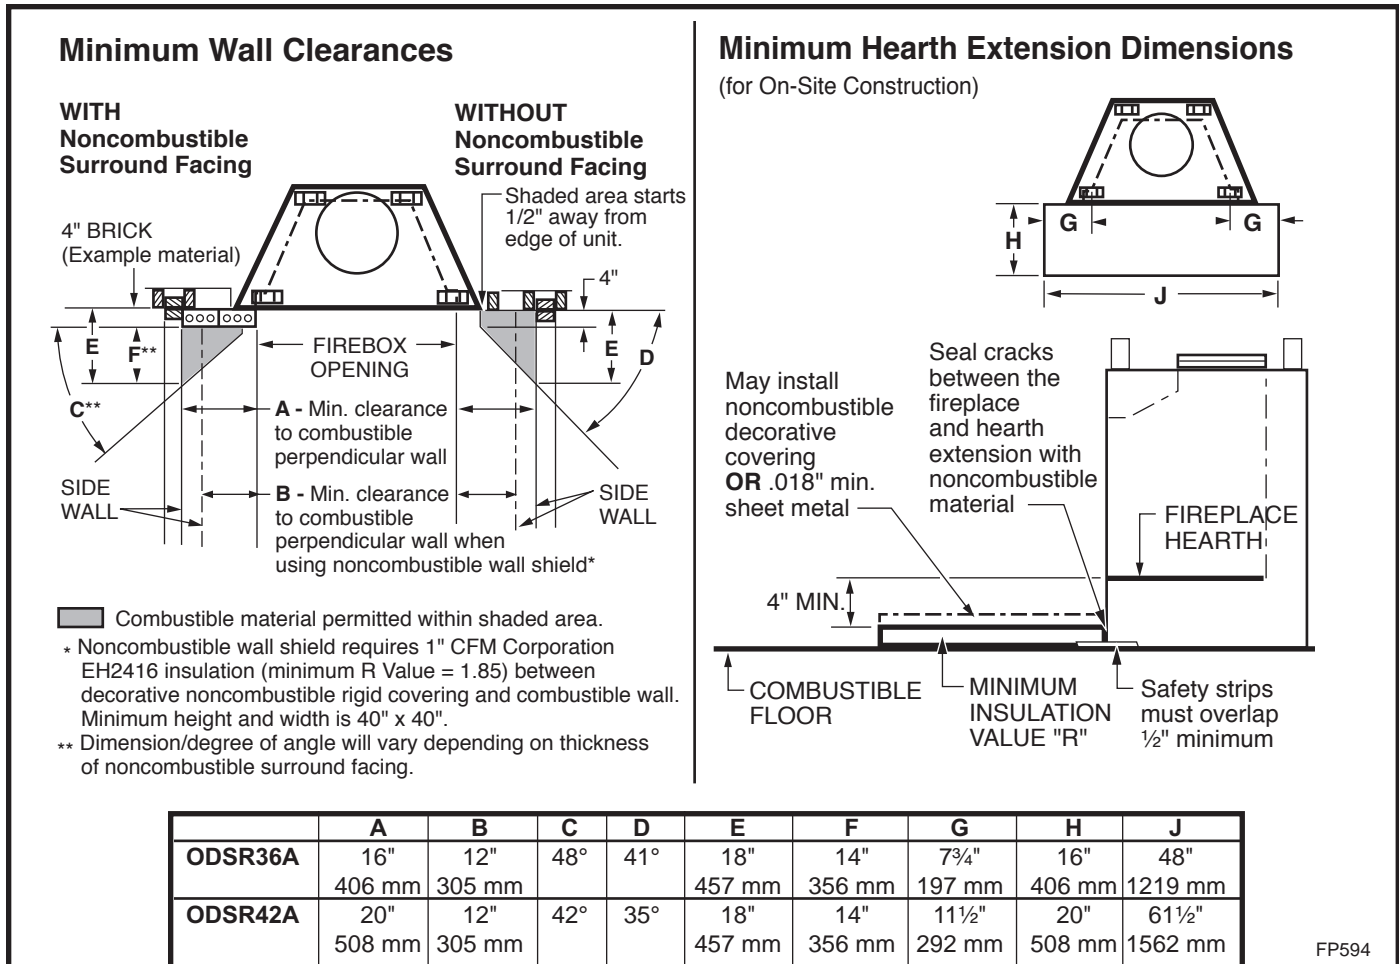

Fig. 24 Combustible side wall protection and hearth extension dimensions.
Often a decorative surround or vertical portion of the mantel is desired. If this is constructed of any combustible material it must be within the safe zone indicated in Figure 24.
Adjacent combustible side walls that are within the minimum dimensions shown in Figure 24 of fireplace opening must be protected with CFM Corporation Wall Shield Model SP40 or a specifically built wall shield described below.
A hearth extension is required to protect a combustible floor in front of the fireplace. Refer to Figure 24 for minimum dimensions and mounting detail.
The hearth extension described in Figure 24 must be a durable noncombustible material with a minimum (total) Rt value of 1.09; refer to Figure 25 for examples. The overall height (above a combustible floor), depth and width must be as indicated, with the extension centered to the fireplace opening.
The top of insulation must be covered with a noncombustible decorative covering **or** a piece of .018" minimum sheet metal, to protect hearth extension material. (Fig. 24)
Secure the hearth extension to the floor to prevent shifting, using trim molding or other similar means at three (3) outer edges. Seal crack between the fireplace hearth and hearth extension with a noncombustible material. (Figs. 24 and 26)